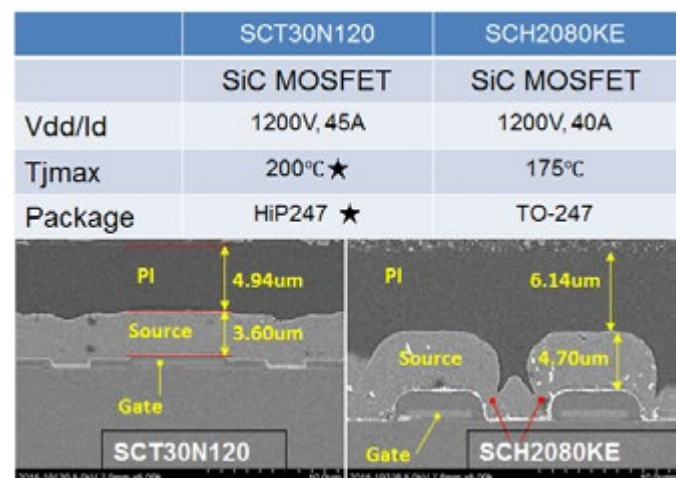

Figure 1: Key datasheet specs and physical structure of the evaluated SiC MOSFET devices
To assess the robustness of commercially available power transistors, we evaluated SiC MOSFET devices encapsulated in TO-247 type package, focusing on STMicro's SCT30N120 having the highest stated  $T_{jmax} = 200^\circ\text{C}$ . We benchmarked and compared this device with the ROHM SCH2080KE having  $T_{jmax} = 175^\circ\text{C}$ . Since in these devices the package, die-attach, and solder materials limit high temperature operation, we performed a complete set of advanced physical and material analyses. Figure 1 shows the relevant datasheet specs and physical structure (SEM cross-sections) of the evaluated SiC MOSFETs. Both the devices feature a conventional planar gate structure. The main differences are in the metallization, wire-bond, and the package EMC.
Use of thick bond wire ( $f = 365 \mu\text{m}$ ) is necessary for high current applications: (I) The large diameter wire also helps achieve high pull/shear strength, as illustrated in Figure 6, and it serves as a thermal cycle enhancement. (II) The larger peripheral length of the bonding pads helps reduce current density in the top metallization. This is a countermeasure against electromigration. The SCT30N120 device exploits the large area bond pad complemented with a smooth top metallization, as shown in Figure 1.